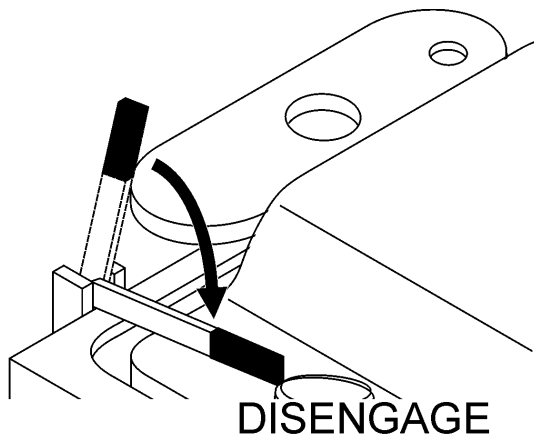

Figure 49. Transmission Lever (Disengaged Position)
- Place the transmission engage/disengage lever in the **DISENGAGE** position (Figure 49).